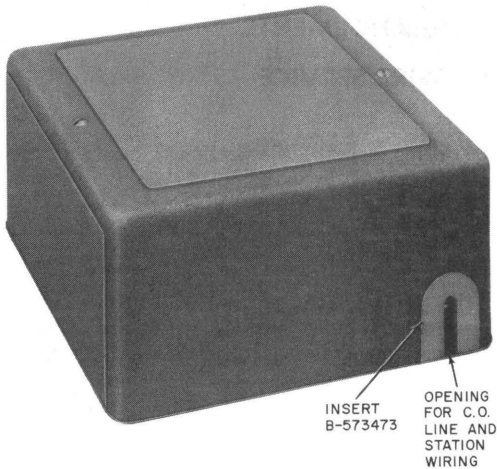

Fig. 1—KS-19645, List 4 Recorder Connector
**2.01** *PCA RCZ (Fig. 1 and 2):* KS-19645, List 1 (MD), List 2 (MD), List 6 (MD), or List 4 recorder connectors provide 1400-Hz warning beeps on 2-wire station lines only when 2-way conversations are being recorded by customer-provided (CP) voice recorders.
**2.02** *PCA RTT (Fig. 1 and 2):* KS-19645, List 4 recorder connector modified to provide 440-Hz warning beeps in both directions on 2-wire station or PBX trunk lines to signal conversing parties that their call is exceeding a time limit predetermined by a CP call duration timer. Not to be used for the recording of 2-way conversations.
**2.03 PCA RCI (Fig. 1 and 2):** KS-19645, List 4 recorder connector modified to provide 1400-Hz warning beeps to the local party and reduce the level of the beep tone being transmitted to the distant party by approximately 60 dB. It is used to connect CP call duration timers to 2-wire station or PBX trunk lines to signal the local party that their call is exceeding a time limit predetermined by a CP call duration timer. Not to be used for the recording of 2-way conversations.